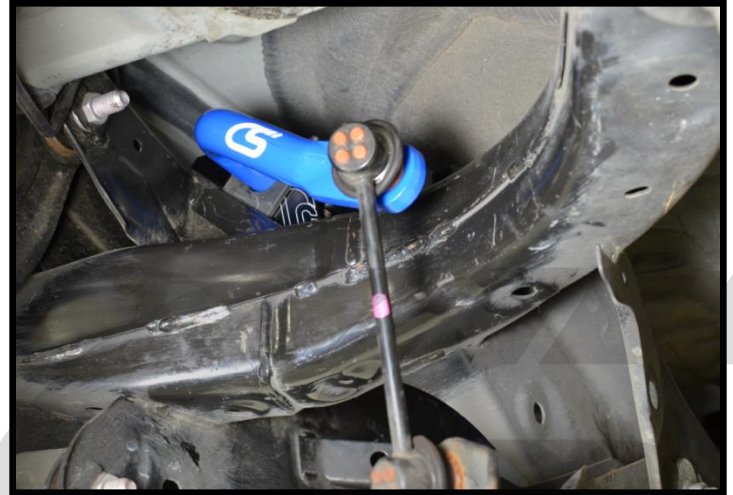

Figure 3f
- d) Reinstall the endlinks (as shown in **Figure 3f**). Tighten to 30ft-lbs.